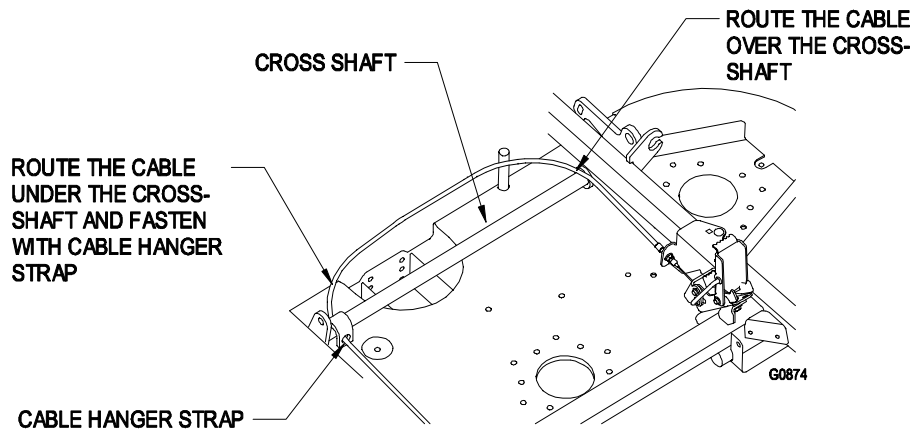

FIGURE 7
- 3.2.8 Route the cable over the left side of the cross-shaft. Remove the seal and run the nuts off the cable. Feed the parts loosely through one hole of the cable hanger strap. Hang the cable under the right side of the cross-shaft and fasten with cable hanger strap as shown in Figure 7. Reinstall nuts and seal.